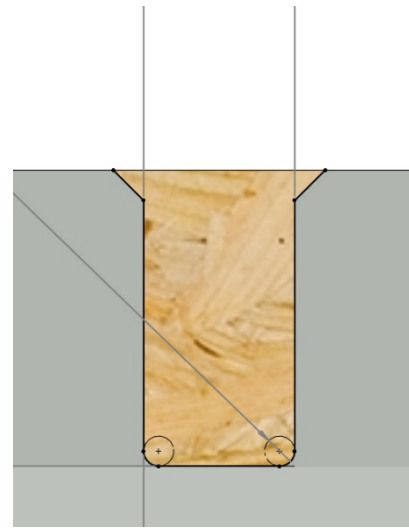

Figure 22 – Upstand drill section.
2. Drill 2 No. 10mm holes as indicated, jigsaw out remainder of shape leaving radiused corners at bottom. Chamfer top corners as shown to aid installation – *see figure 22*.